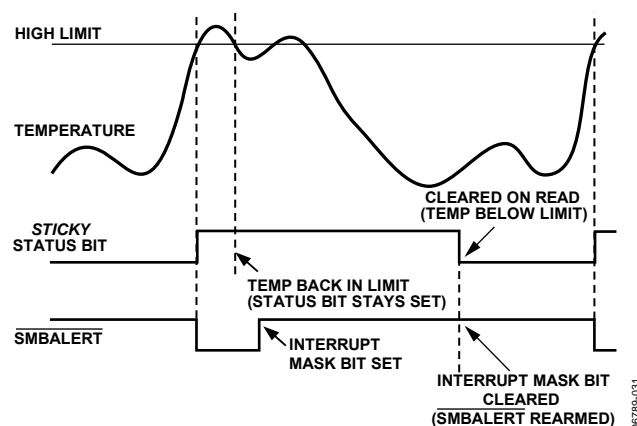

Figure 32. How Masking the Interrupt Source Affects SMBALERT Output
7. Periodically poll the status registers. If the interrupt status bit has cleared, reset the corresponding interrupt mask bit to 0. This causes the SMBALERT output and status bits to behave as shown in Figure 32.
The interrupt mask registers allow individual interrupt sources to be masked out to prevent SMBALERT interrupts. Note that masking an interrupt source prevents only the SMBALERT output from being asserted; the appropriate status bit is set normally see Figure 32. Full details of the status and mask registers associated with each measurement channel are detailed in Table 20 and Table 24.